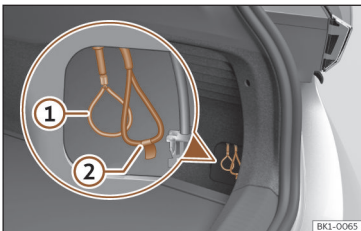

Fig. 77 Behind the cover: emergency release of the charging connector ① and cut-off point for rescue ②.
- Pull the emergency manual release loop >>> Fig. 77 ①. The loop has no flag >>> ⚠! The charging connector can be removed >>> ⚠.
Right next to the emergency manual release loop can be found a loop for the high voltage system's fuse for the emergency services >>> Fig. 77 ②. The fuse is marked with a yellow flag >>> ⚠.